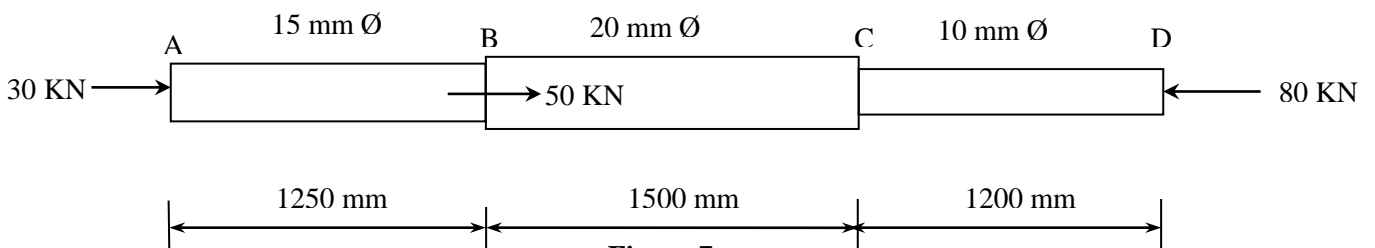

Figure 7
- (b) Determine deformation in each part of the bar ABCD shown in **Figure 7**. Take $E = 2 \times 10^5 \text{ N/mm}^2$. **04**